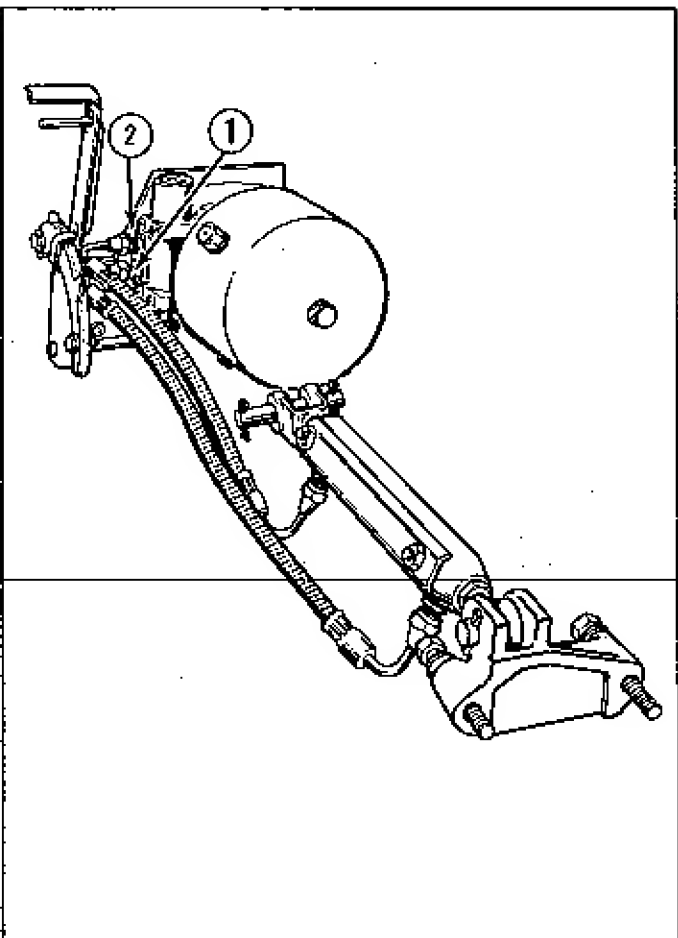

FIGURE 7
- I. Remove the protective slugs from the hose fittings, and attach the longer hose from the rear cylinder fittings to the bottom fitting on the valve assembly (1, Fig. 7 & 7 A) (NOTE: The hose end with 90° bend goes to the cylinder, and the end with 114° bend goes to the valve assembly).
- J. Attach the shorter hose from the front cylinder fitting to the top fitting on the valve assembly (2, Fig. 7). (Check to be sure there is no interference with the steering gear when the lift lever is operated, and that there are no kinks or sharp bends in the hose).
Install the clamp (4 Fig. 7) to hold the hoses securely in position.
- K. Attach PTO clutch lever bracket (5 Fig. 7) to side of frame, and re-assemble PTO lever as shown.